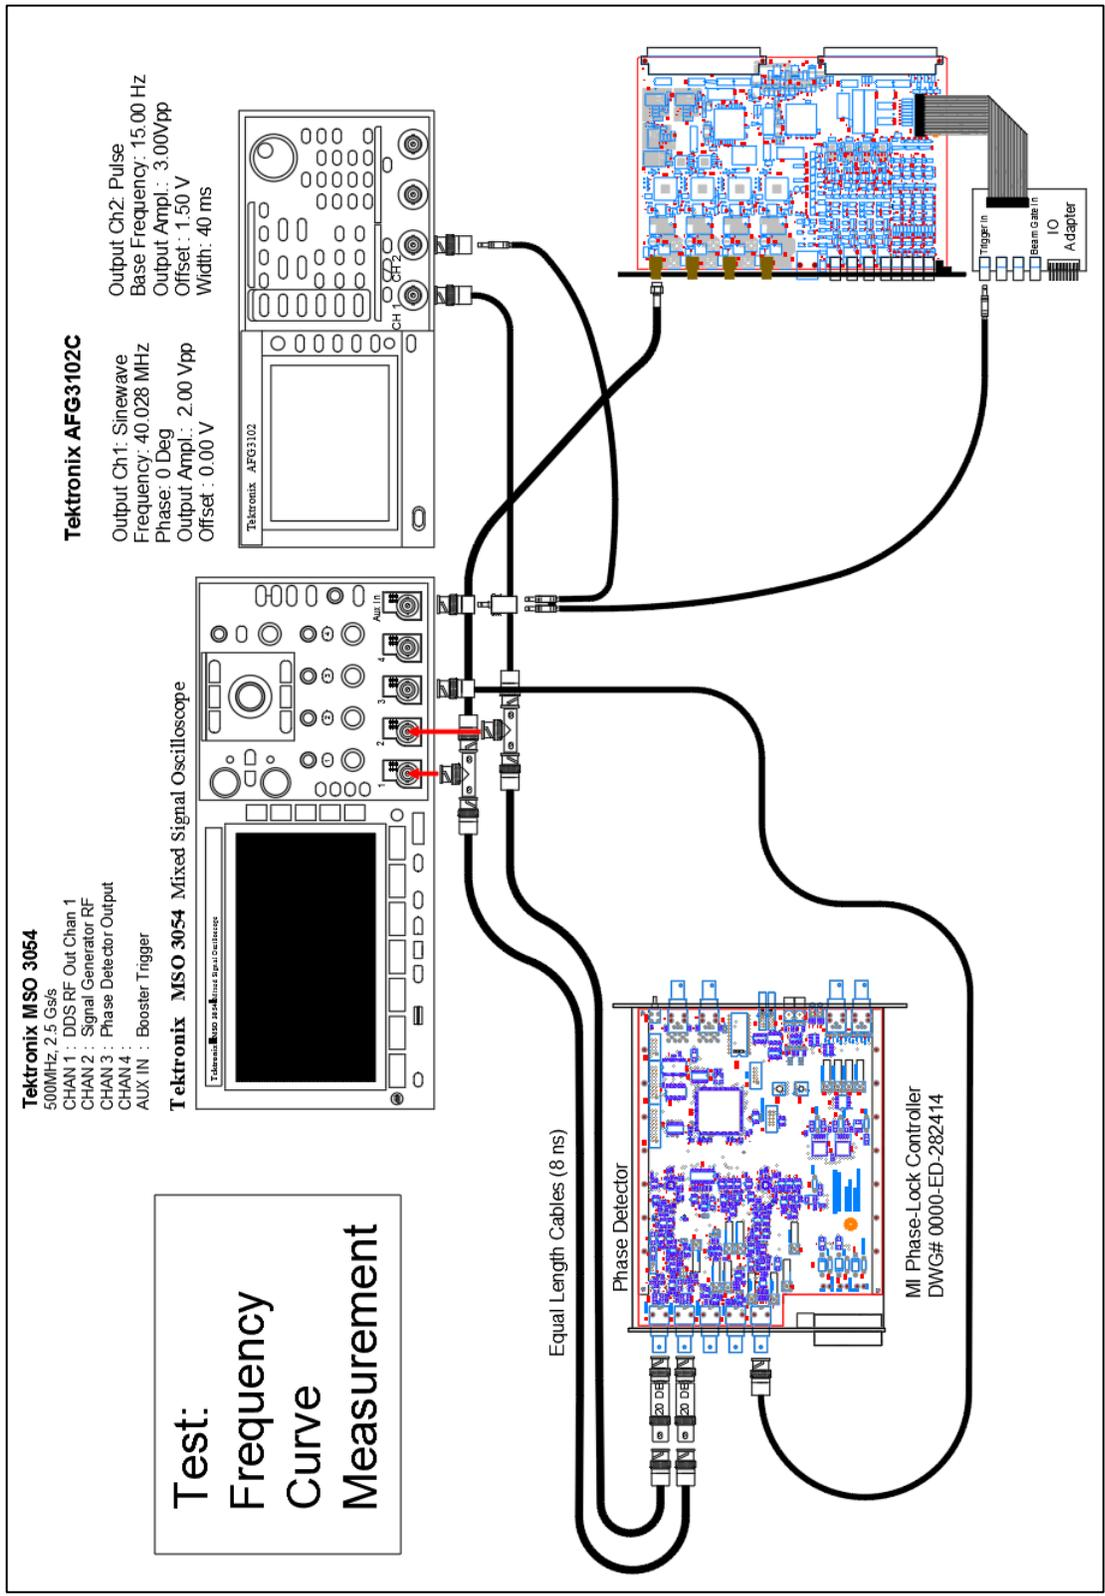

Figure XII.1 Setup for measuring parameters of the frequency sweep.
See Figure XII.1 for the setup.
1. Setup the test equipment as in Figure XII.1.